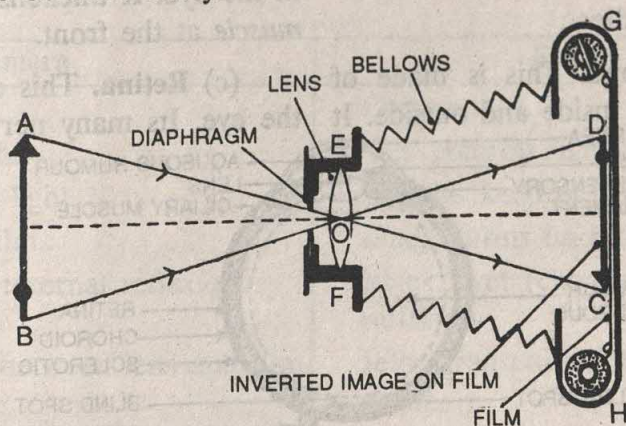

Fig. 6.21 Diagram of a folding camera
2. The Photographic camera Convex lenses are used in the camera. This consists chiefly of a convex lens and a sensitive film or plate forming the screen, all being enclosed in a box painted black on the inside to prevent any light affecting the film. Fig. 6.21 shows the working of a folding camera. EGHF is the camera, O being the camera lens and GH being the film or plate. AB is the object whose photograph is being taken. A beam of light from it passes through the lens and forms an inverted image of the object on the sensitive film or plate. You 'take' the photograph by allowing light to pass through the lens for a very short time, depending on how much light is available. This light will affect the film or plate according to how much of it reaches different parts of the film, that is, according to the image of the object formed on it.